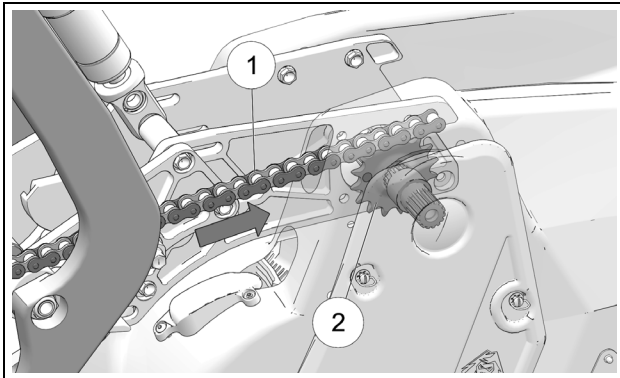

Figure 33
- Insert chain (1) in upper opening at the front of the system and feed it over jack shaft drive sprocket (2). See Figure 33.